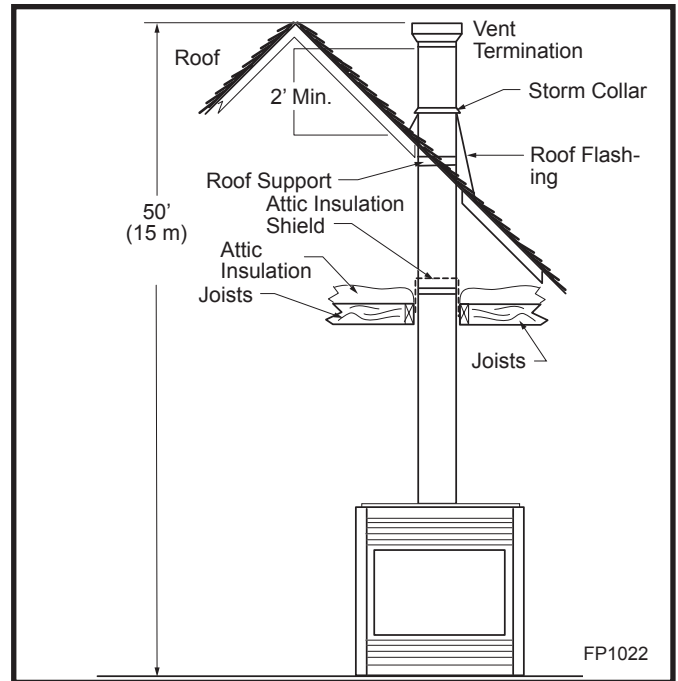
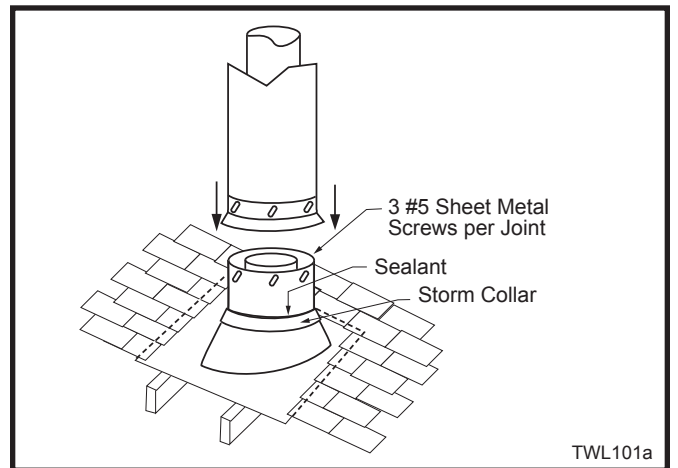

Fig. 39 Typical straight-up installation.
Fig. 40 Roof flashing.
7. Install roof support (Fig. 39) and roof flashing making sure upper flange is below the shingles. (Fig. 40)
8. Install appropriate pipe sections until the venting is above the flashing. (Fig. 40)